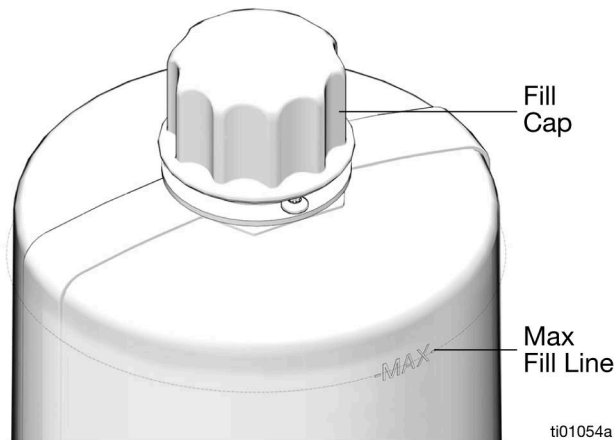

FIG. 22
- Do not overfill (FIG. 22).
- Remove fill cap (Z) (FIG. 22).
- Pour oil into the reservoir to the max fill line (FIG. 22).
- Reinstall fill cap (Z). Securely hand tighten the cap.